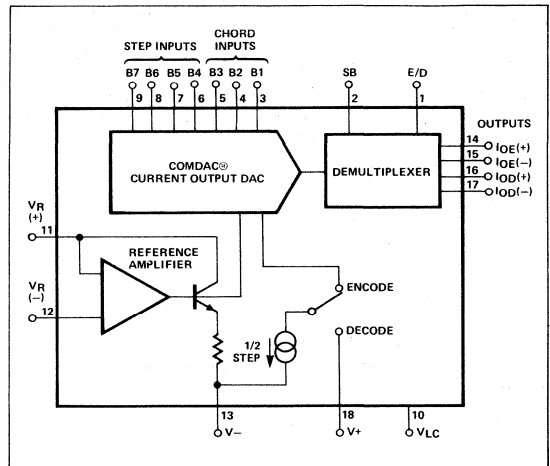

Figure 2. DAC-76 Equivalent Circuit
The DAC-76 contains a logarithmic current output D/A converter, a 4-channel demux, and a reference amplifier. The reference amplifier accepts bipolar inputs and sets the converter's full scale output range from 0 to 4.2ma. This output current can then be adjusted by the digital input code described earlier. Inputs B1 through B3 select the chord while B4 through B7 select the steps within the chord (see Figure 2). A unique switch is used in the demultiplexer section that can be programmed for encode/decode (E/D) select, or polarity of a bipolar signal selection with the sign bit (SB). The combination of both E/D and SB results in the 4-channel demultiplexing capabilities. The COMDAC® versatility becomes quite apparent in Figure 3.